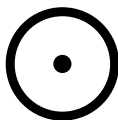

Figure 5.2 Laser pointer with temperature measurement spot
4. Use the Laser pointer to accurately target a spot. Press the Laser pointer button to switch ON the Laser pointer. The camera's Laser pointer includes a circular spot indicating the area that is being monitored for temperature, utilizing DOE (Diffractive Optical Elements) technology. See the Laser pointer image example below in **Figure 5.2**. If the Laser beam does not appear when the button is pressed, check the menu system (under *Device Settings*) to ensure that the Laser is enabled.